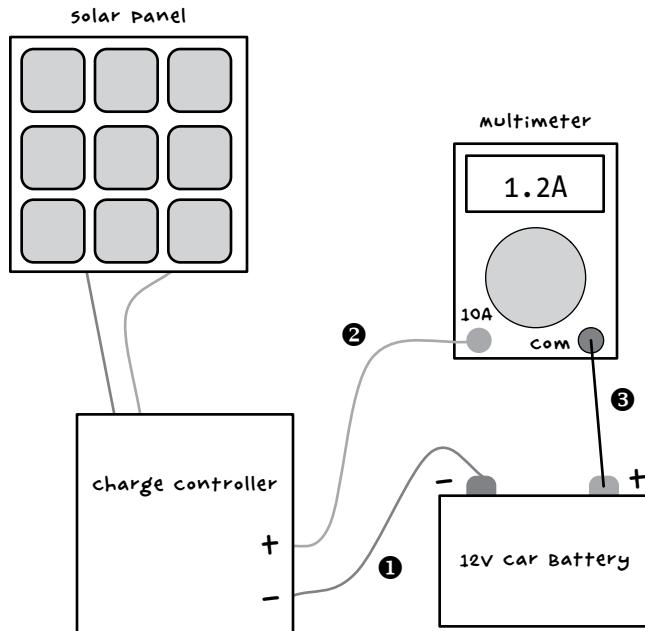

FIGURE 2-5: SOLAR PANEL WIRING DIAGRAM
The diagram shows the wiring for the project (Figure 2-5).
Charge controllers are all a little different from each other, but most will have six terminals, each in pairs of + and -. One pair will connect to the solar panel, another will connect to the battery, and the third pair (not shown in Figure 2-5) will connect to whatever you want to power with the battery. For now, let's just worry about charging the battery; I'll show you how to use that stored energy later.
Wire up the battery, multimeter, and charge controller as shown in Figure 2-5. The red probe lead from the multimeter can fit in the screw terminal of the charge controller, but the black probe needs to connect to the battery somehow. The best way is to attach one end of the black probe to one of the heavy-duty alligator clips.
This means we need to make three leads, using the alligator clips and probe leads. For the first of these leads (labeled ❶ in Figure 2-5 and shown in Figure 2-8, I just used half of the multimeter's black lead, with the probe cut off. However, you can use any black wire you like.
The second of the three leads (labeled ❷ in Figure 2-5 and shown in Figure 2-9) will go from the positive high-current terminal of the multimeter to the positive battery output of the charge controller. This lead is just the positive meter lead with the probe cut off and the insulation stripped off the last half inch (10 mm).
You'll connect the final of the three leads (labeled ❸ in Figure 2-5 and shown in Figure 2-10) from the negative (COM) connection of the multimeter to the alligator clip that will be connected to the positive terminal of the battery.